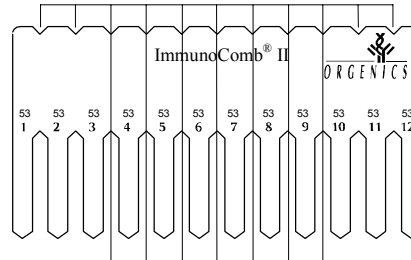

Figure 4. Breaking the Comb
- b. Bend and break the Comb vertically or cut with scissors (see Figure 4) to detach the required number of teeth (No. of tests + 2 controls).